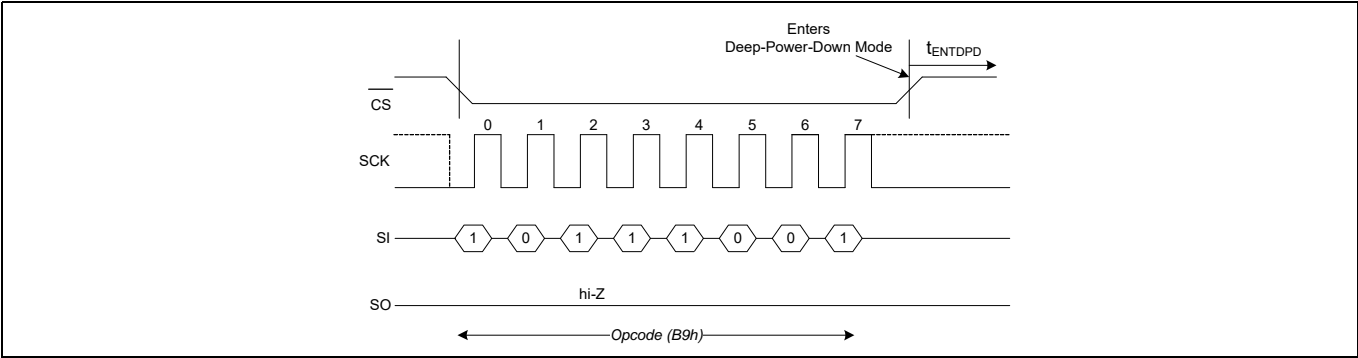
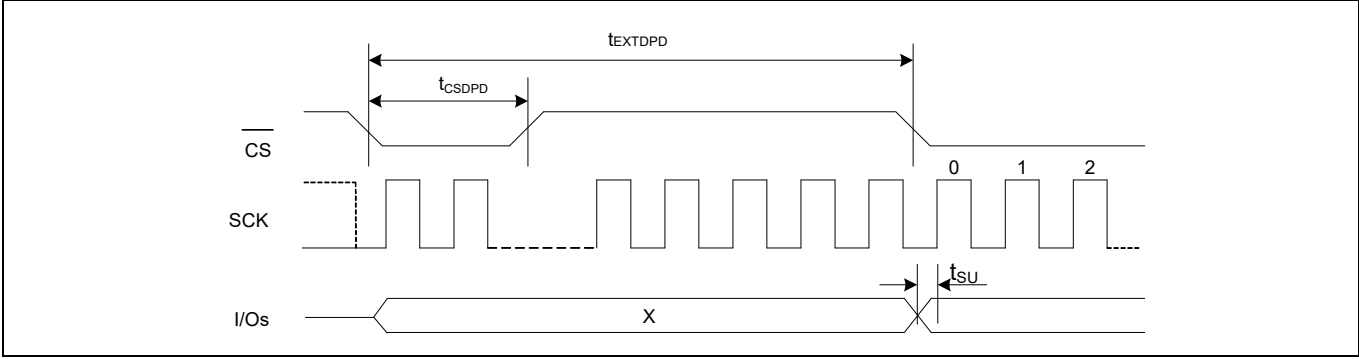

Figure 99 DPD entry in SPI mode
Figure 102 DPD exit in SPI mode
A \overline{CS} pulse-width of t_{CSDPD} or hardware reset exits the DPD mode after t_{EXTDPD} time. The \overline{CS} pulse-width can be generated either by sending a dummy command cycle or toggling \overline{CS} alone while SCK and I/Os are don't care. The I/Os remain in hi-Z state during the wakeup from deep power-down. Refer to Figure 99 for DPD entry and Figure 102 for DPD exit timing.
- The timing details shown in Figure 99 are applicable as is in DPI and QPI modes.